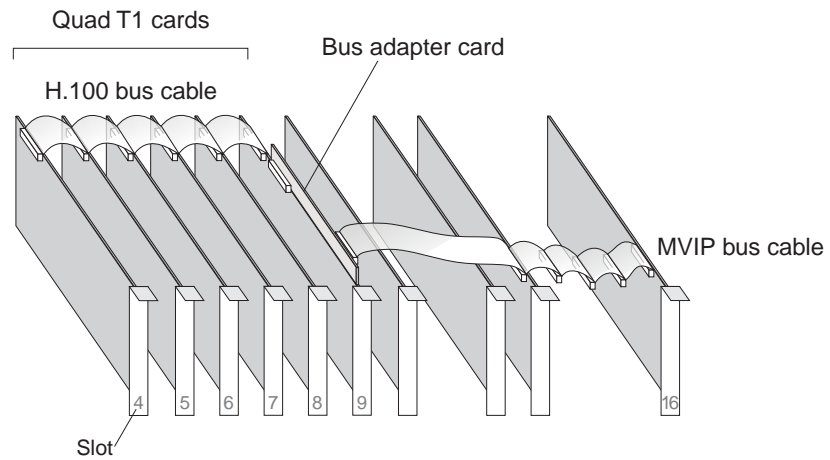

Figure 14-1 H.100 and MVIP bus cables
5. Disconnect the H.100 ribbon cable (shown in Figure 14-1) from the card to be replaced.
7. *If the card to be replaced is the first one in a chain of Quad T1 cards (typically in slot 9), remove the MVIP cable also. See Figure 14-1.*
11. *If the removed card was the first in a chain of Quad T1 cards, an MVIP-to-H.100 bus adapter card is attached at the top of the Quad T1 card (Figure 14-1): Unscrew the bus adapter card (or use a new bus adapter card) and connect it to the new Quad T1 card, as shown in Figure 14-2.*
14. Reconnect the H.100 cable to all Quad T1 cards. Refer to Figure 14-1.
15. *If the card replaced is the first card in a chain of Quad T1 cards, carefully reconnect the MVIP cable. See Figure 14-1.*
5. Disconnect the H.100 ribbon cable (shown in Figure 14-1) from the card to be moved or replaced.
7. *If the card to be moved or replaced is the first one in a chain of Quad T1 cards (typically in slot 9), remove the MVIP cable also. See Figure 14-1.*
13. *If the removed card was the first in a chain of Quad T1 cards, an MVIP-to-H.100 bus adapter card is attached at the top of the card (Figure 14-1): If the card will no longer be the first one in the chain or the card is being replaced, unscrew the bus adapter card (or use a new bus adapter card) and connect it to the Quad T1 card that will be the first in the chain. See Figure 14-2.*
16. Reconnect the H.100 cable to all Quad T1 cards. Refer to Figure 14-1.
17. *If the card replaced is the first card in a chain of Quad T1 cards, carefully reconnect the MVIP cable. See Figure 14-1.*